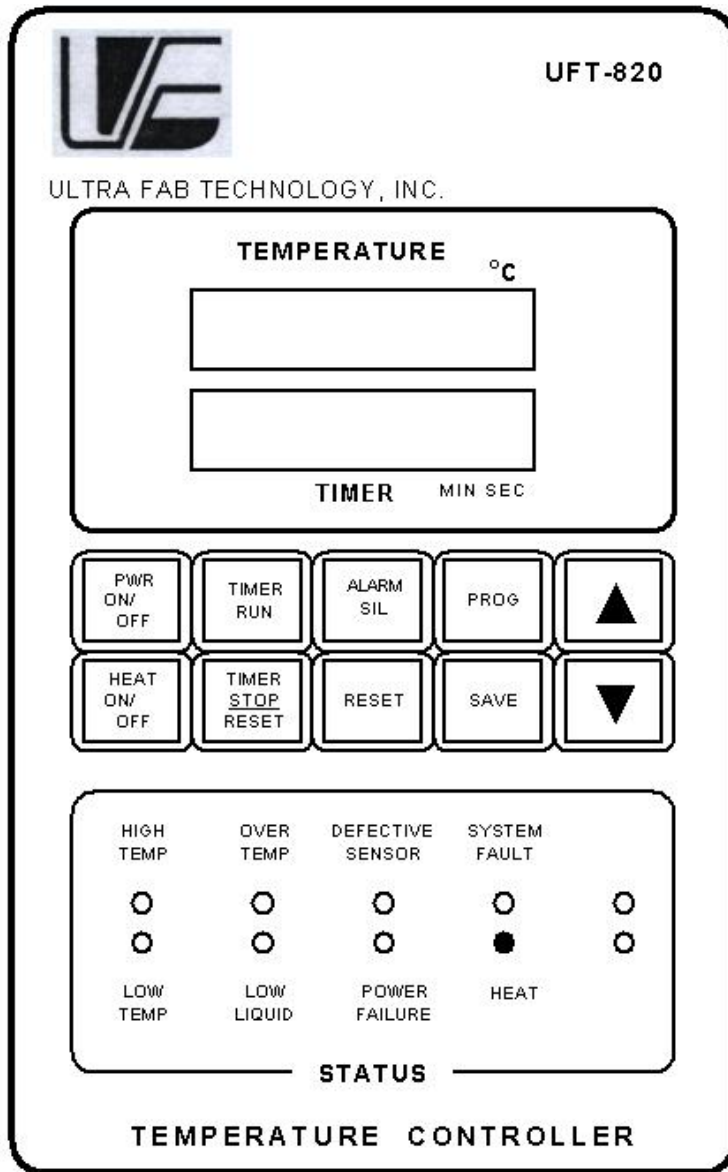
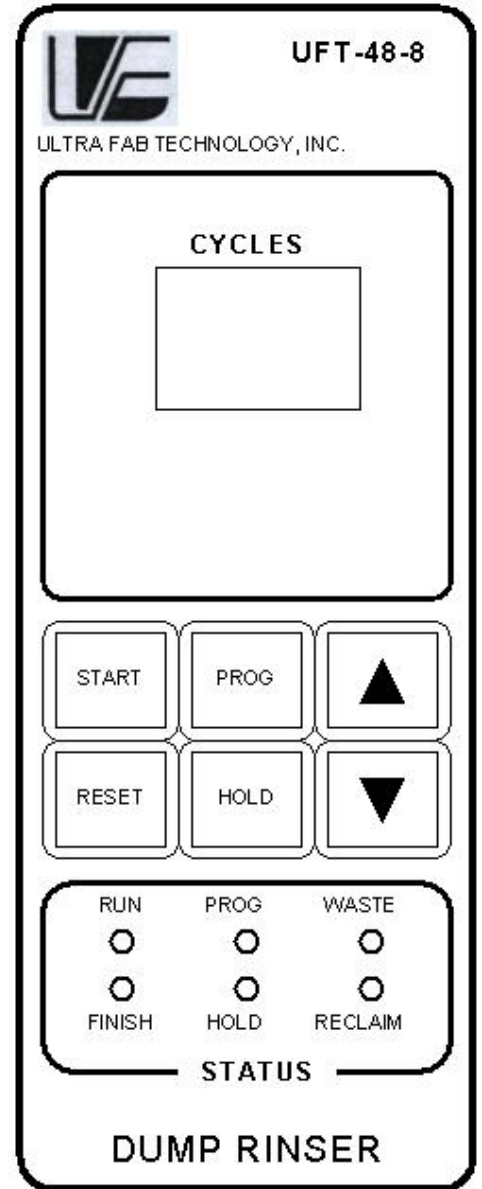

Figure 1
Figure 2
There are three control/displays at this station (see Appendix 1). The single UFT-820 (Figure 1) temperature control panel is for both heated baths. The UFT-48-8 Dump Rinser (Figure 2) control panel is for the quick dump rinse (QDR) station. The QDR is currently set up for two dump rinse cycles. Wafers are initially showered with DI water followed by two DI fill-dump cycles. These cycles end with wafers submerged in the water for operator to extract and dry with the N2 gun. See Appendix 1 for more details. The station performs an automatic self-cleaning, every 60 minutes by one QDR cycle. The Resistivity Monitor panel is not used at this sink.
| PWR ON/OFF | Turns on/off the power control panel (Figure 1). |
9.2 Quick Dump Rinse Operation (Figure 2)
9.2.2 Press **START** button to activate the dump rinse cycle (Figure 2). It will cycle down from 2 to 1 then show 0 in the display window. At the end of the two cycles a beeping alarm will sound.
10.1 Status Sidebar at Temperature Control Panel (Figure 1)